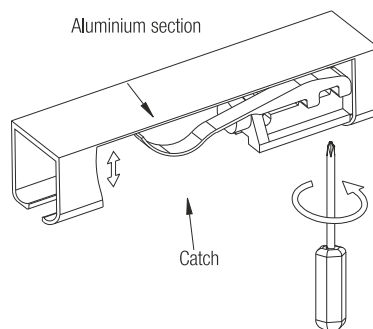

Fig.4
3. Fit the catch in the aluminum section at both ends and adjust the center screw for pressure (Refer Fig. 4).